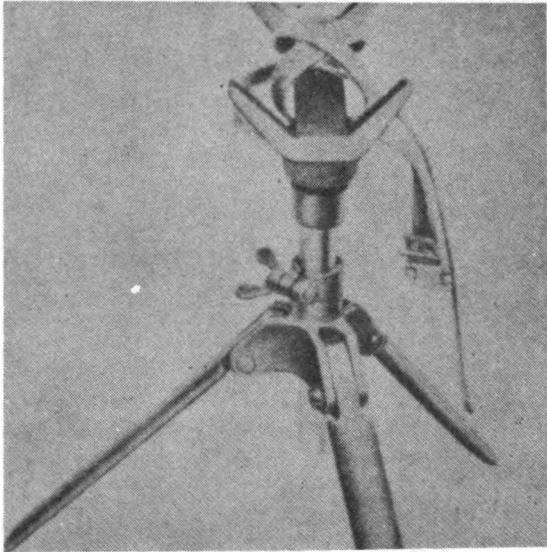

Figure 6—Tripod M14 With Strap
a. Tripod M14 (fig. 6) provides a rest for the Telescope M48 and steadies it when in use. The telescope rests in the cradle of the tripod and is secured by a webbing strap and buckle. A socket-and-ball connection between the tripod cradle and the leg assembly permits movement of the telescope. A clamping nut holds the telescope at any required angle. With the folding legs of the tripod fully ex-